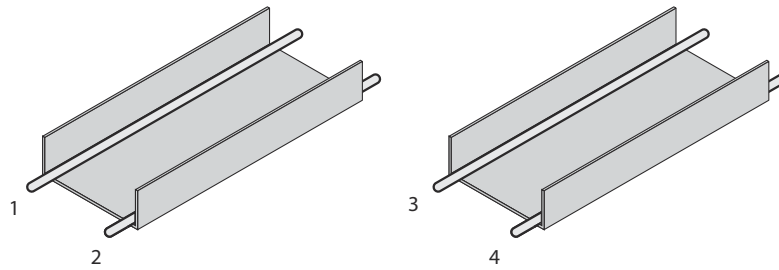
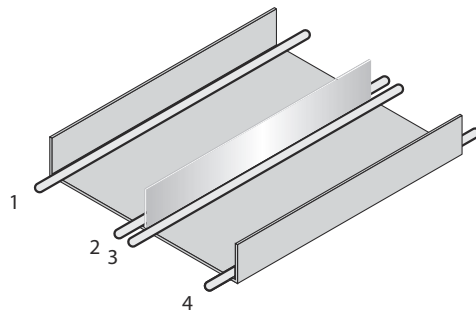

Figure 9: Ideal laying - Place cables in different cable channels
Figure 10: Alternative laying - Separate cables with metallic separators
- ▶ Route the cables in groups 1, 2 and 3, 4 in different cable channels or use metallic separators (see figure 9 and see figure 10). This applies particularly if cables of devices with a high level of radiated emission, such as frequency converters, are laid parallel to device cables.